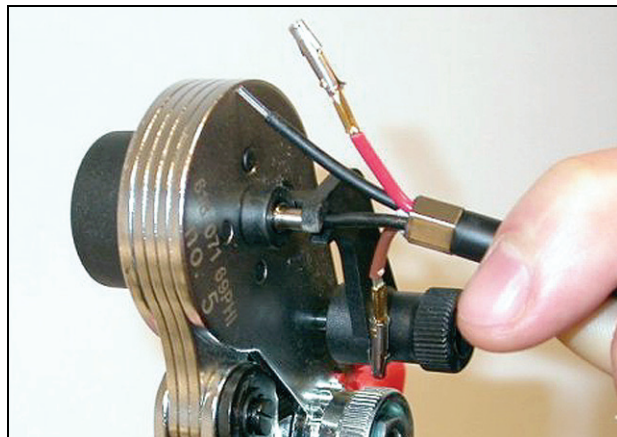

figure 30.23: Crimping ferrules (1)
- 21 Insert a plastic optical fiber into the ferrule in the spring-loaded stop of the POF positioning tool (see figure 30.23).